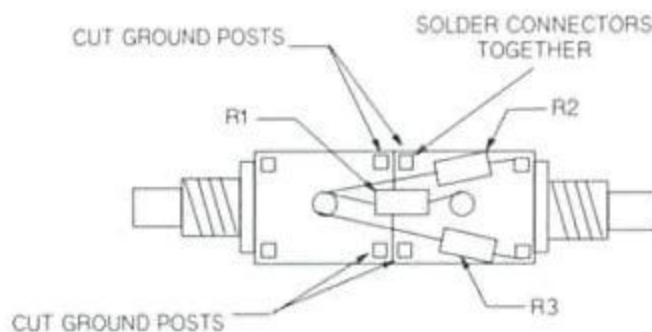

Figure 5-2
4. Solder the resistors to the center and ground posts as shown in figures 5-2 and 5-4.